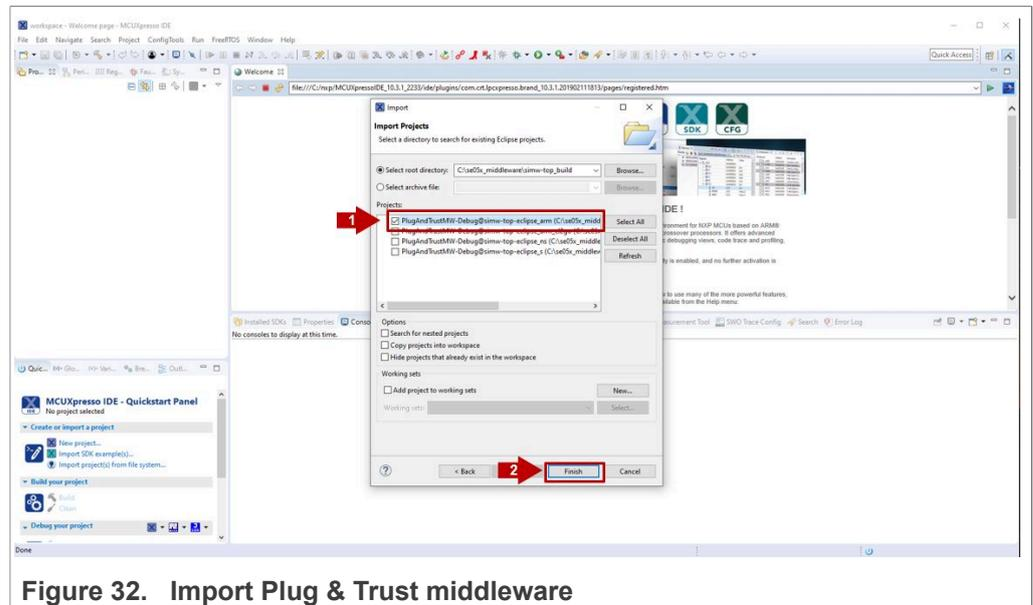

Figure 32. Import Plug & Trust middleware
- After selecting `C:\se05x_middleware\simw-top_build` folder, a project called *PlugAndTrustMW-Debug@simw-top-eclipse_arm* should be visible in the "projects" area. Select it and click on the *Finish* button to import this project into your workspace as shown in Figure 32: